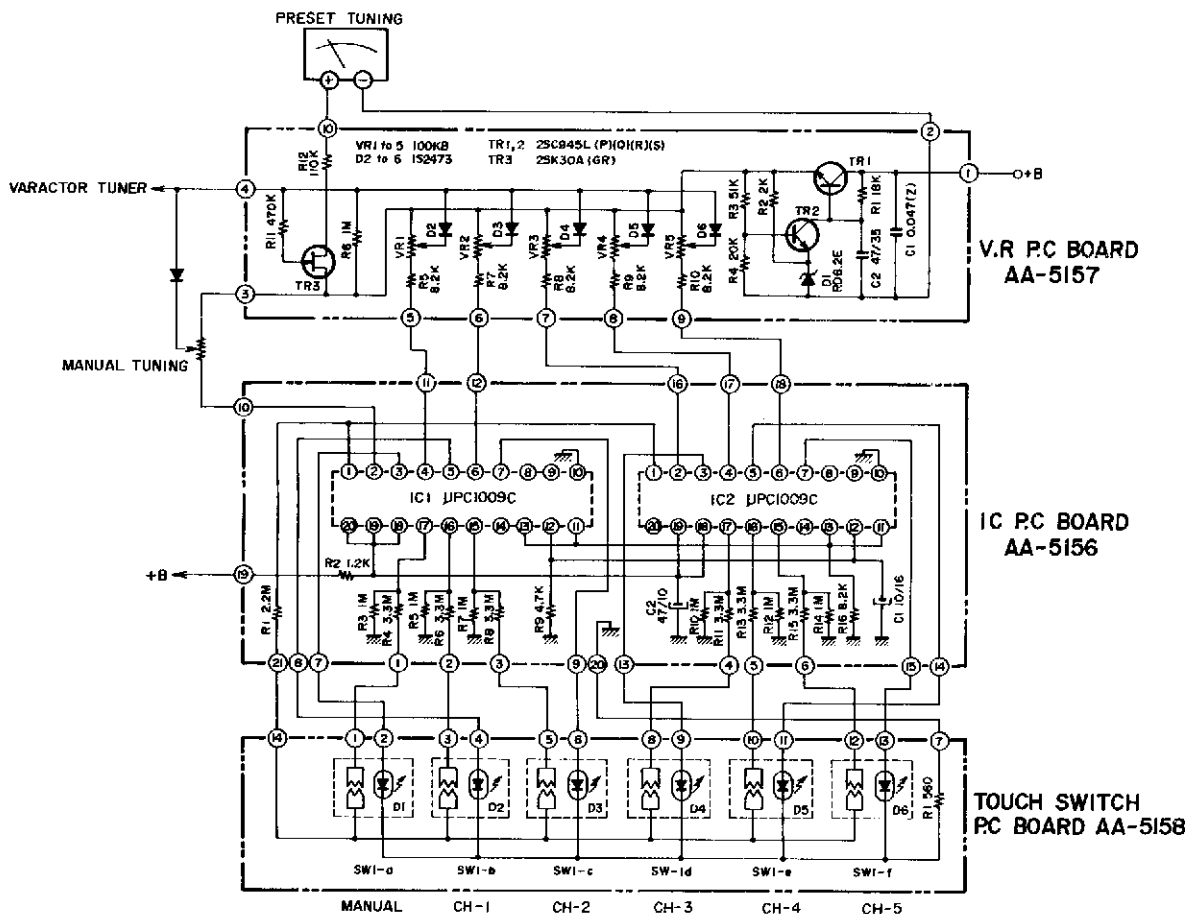
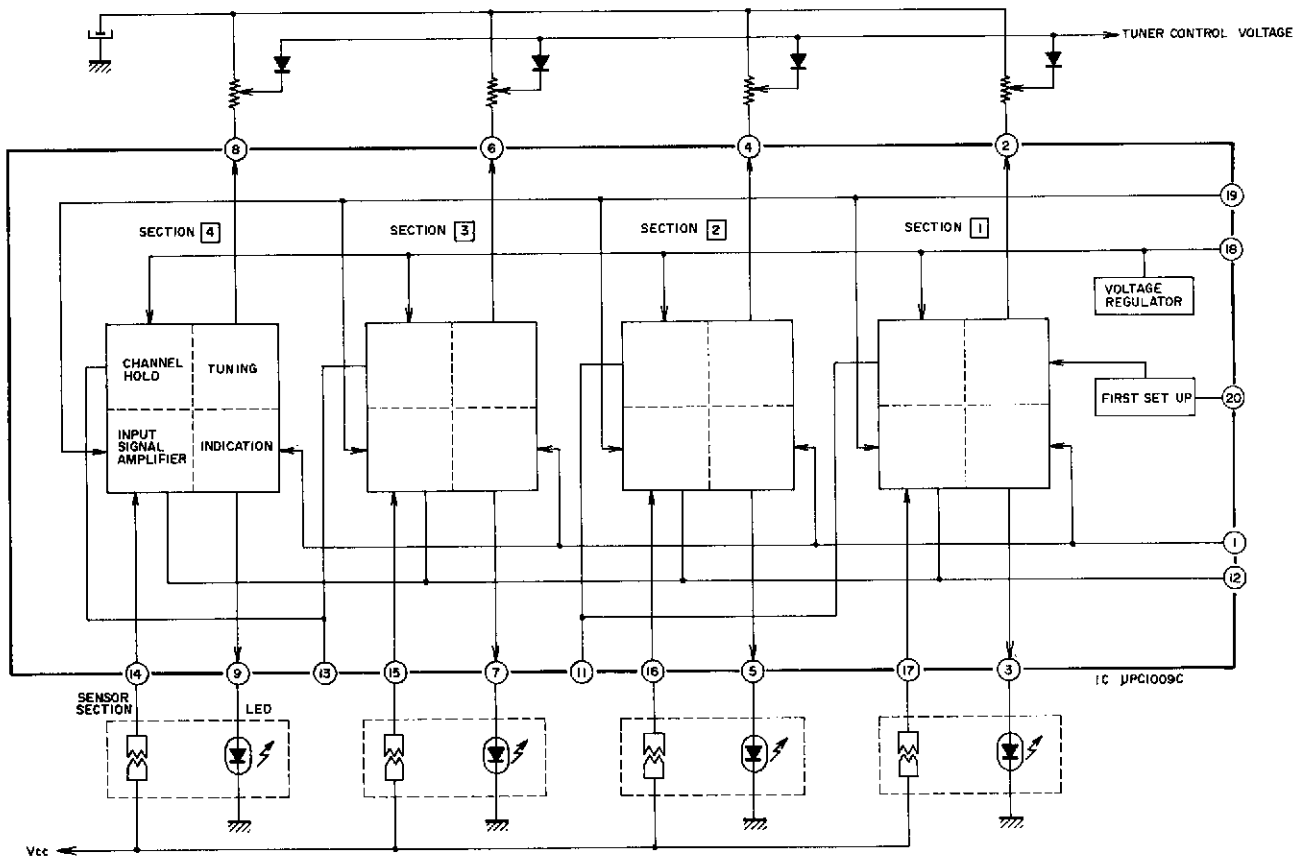
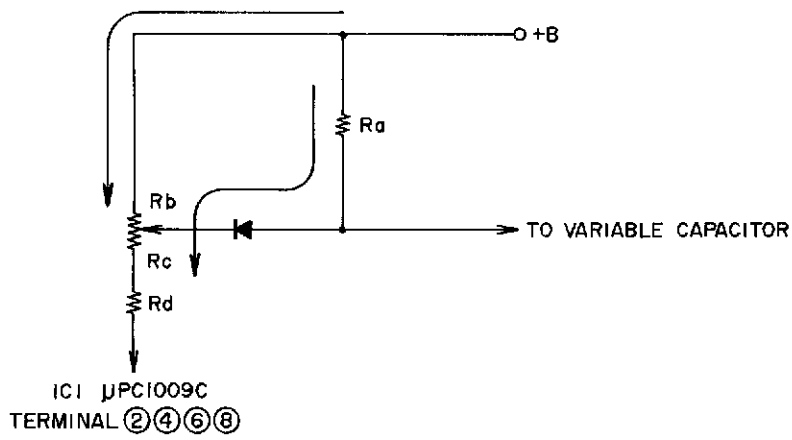

Fig. 7
Fig. 8
Fig. 9
The circuit shown in Fig. 7 is the control voltage generating preset volume and sensi-touch circuit. Fig. 8 shows the inside of circuit sensi-touch IC  $\mu$ PC1009C which include the 4 channel circuitry. Terminals 14 through 17 are the input terminals; terminals ②, ④, ⑥, and ⑧ are the station selection output terminals; and terminals ③, ⑤, ⑦, and ⑨ are the pilot output terminals. When channel 1 sensor electrode is touched, voltage is supplied to the IC as the input signal through finger (body) resistance at terminal ⑰. Then, the impedance is lowered at IC station selector output terminal ② and current flows as shown by the arrow marks in Fig. 9. Consequently, because the supply voltage to the varactor tuner diode is changed by the dividing ratio of  $R_b$  and  $R_c$ , station selection is possible by means of setting the preset volumes beforehand according to the desired broadcast frequencies.